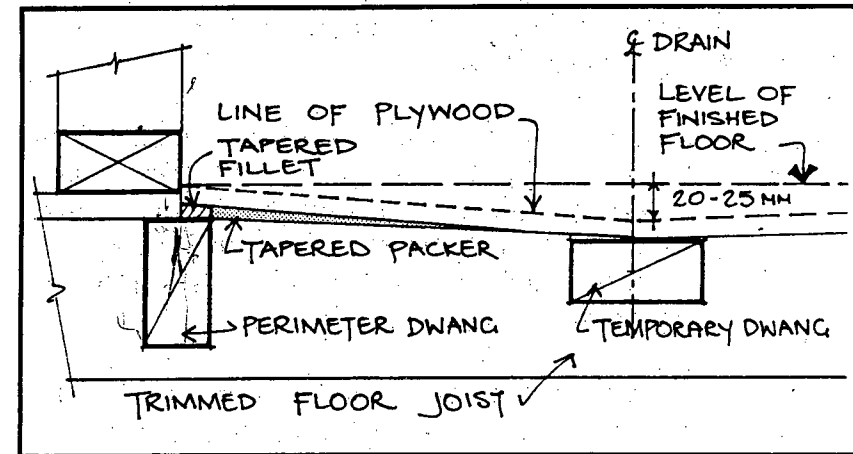

Figure 3
5. Insert a tapered fillet of suitable thickness around the perimeter to allow 17mm for the construction ply. Figures 3 and 5.
6. Set out the position and level of the drain (use a temporary dwang). A fall of 20 - 25mm measured from the perimeter to the centre of the drain is sufficient. (Figures 3 and 4.) If the existing house floor is not level it may be necessary to increase the fall slightly to compensate.
7. Establish diagonal lines running from the centre of the drain out to the corners of the shower area. Dwang these diagonals (100 x 50mm on flat) and trim joists as necessary to produce four triangular sloping planes converging at the centre of the drain (use an electric planer). Figures 3, 4 and 6.
9. Use tapered packers to pack any parts of the original joists which are too low. Figures 3, 4 and 5.